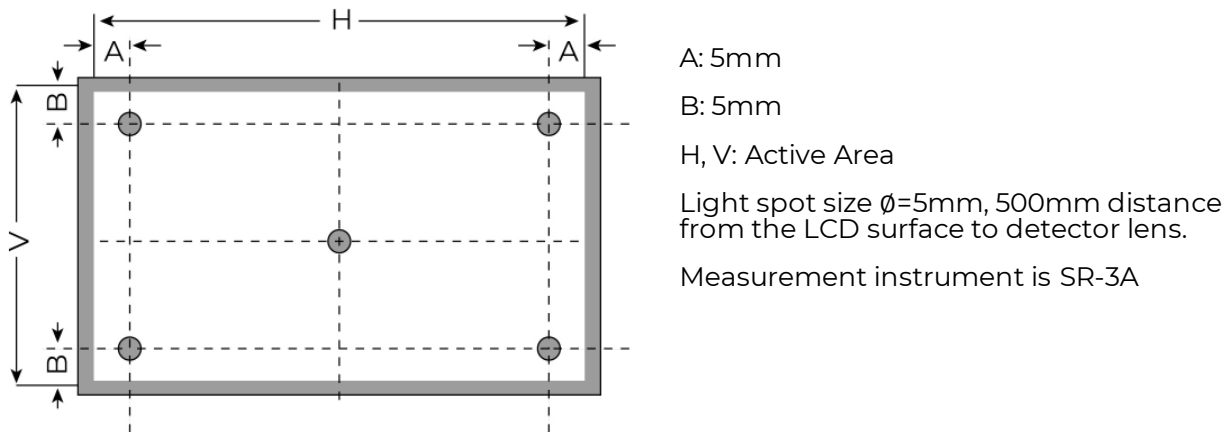

Figure 2. Measuring method for Contrast ratio, surface luminance, Luminance uniformity, CIE (x,y) chromaticity
Note 1. Contrast Ratio (CR) is defined mathematically as below, for more information see Figure 2.
Note 2. Surface luminance is the LCD surface from the surface with all pixels displaying white. For more information see Figure 2.
Note 3. The uniformity in surface luminance δ WHITE is determined by measuring luminance at each test position 1 through 5, and then dividing the minimum luminance of 5 points luminance by maximum luminance of 5 points luminance. For more information see Figure 2.